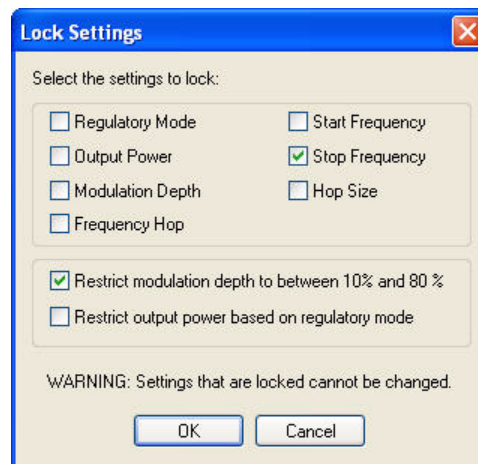

Figure 5-5 Lock Settings Dialog
- **Lock**—Opens the Lock Settings dialog, which lets you lock specific settings so that they cannot be changed (Figure 5-5).